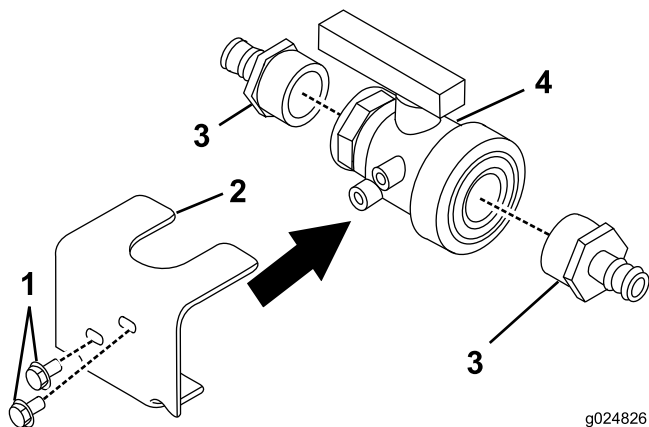

Figure 20
2. Assemble the Ball Valve mount assembly (Figure 20).